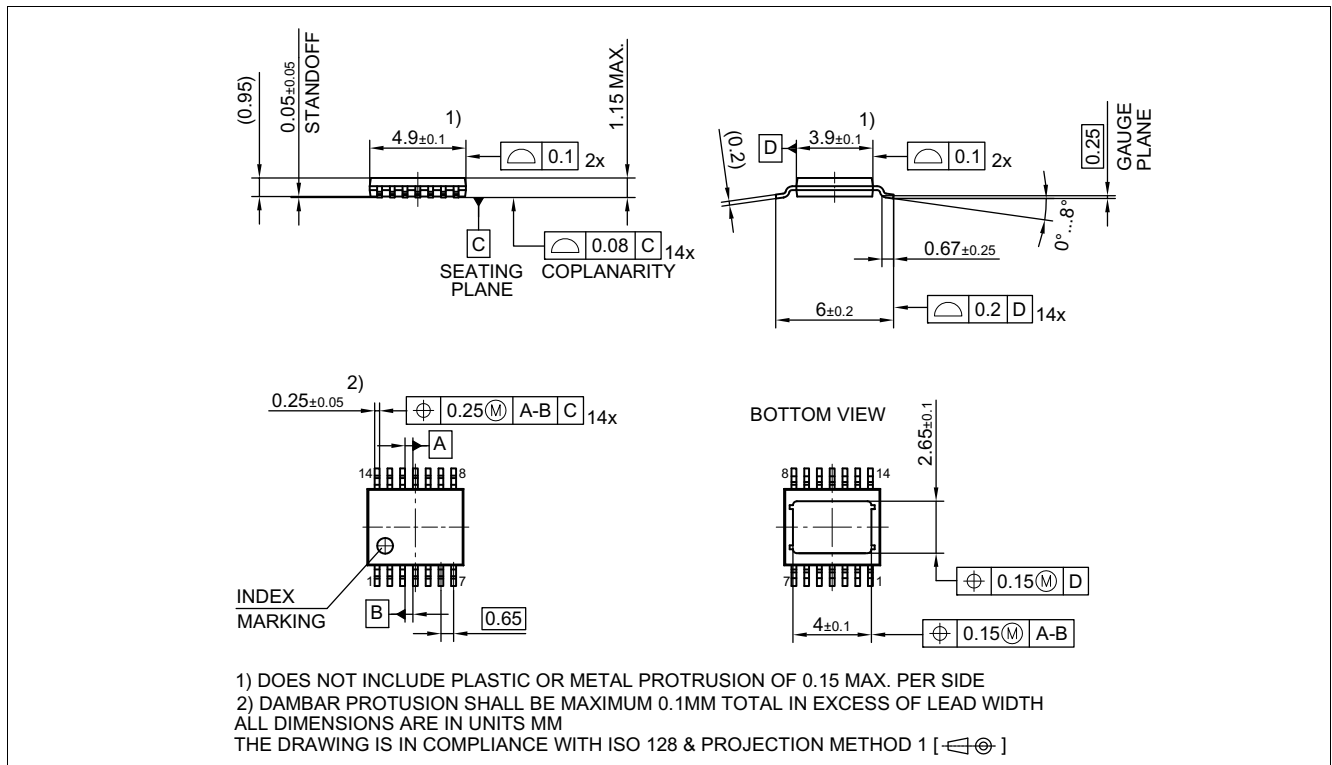
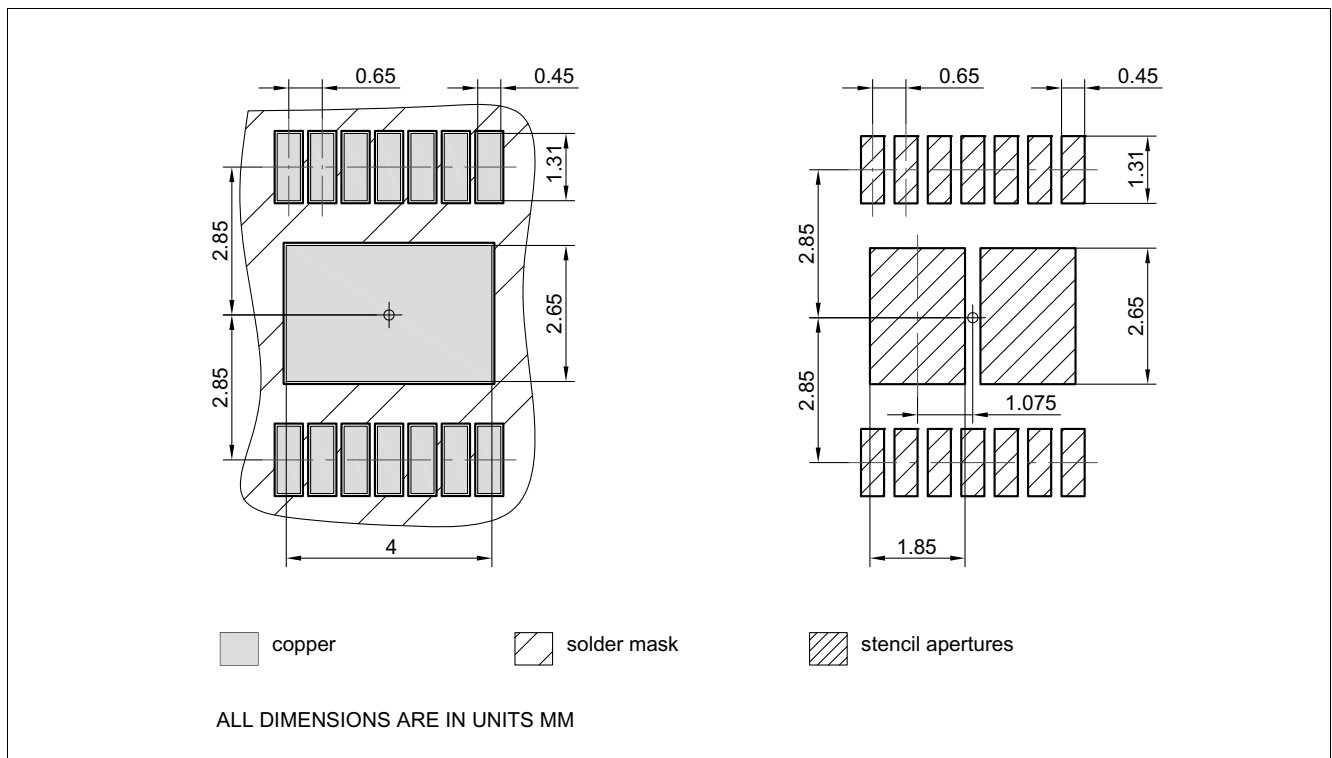

Figure 38 PG-TSDSO-14 (Thin (Slim) Dual Small Outline 14 pins) Package Outline
Figure 39 PG-TSDSO-14 (Thin (Slim) Dual Small Outline 14 pins) Package pads and stencil
1.02, 2019-02-05	<p>Figure 9, Figure 10 updated Page 1: updated figure product Table 22 updated punctuation Chapter 9.3, Chapter 9.3.1 updated (typo) Page 1: updated (Package PG-TSDSO-14-22 → Package PG-TSDSO-14) Figure 38 updated (PG-TSDSO-14-22 (Thin (Slim) Dual Small Outline 14 pins) Package Outline → PG-TSDSO-14 (Thin (Slim) Dual Small Outline 14 pins) Package Outline) Figure 39 updated (PG-TSDSO-14-22 (Thin (Slim) Dual Small Outline 14 pins) Package pads and stencil → PG-TSDSO-14 (Thin (Slim) Dual Small Outline 14 pins) Package pads and stencil) Table 1 updated (Parameter: Minimum Overvoltage protection ($T_J = 25\text{ °C}$) → Minimum Overvoltage protection ($T_J \geq 25\text{ °C}$)) Table 1 updated (Symbol: $I_{VS(OFF)}$ → $I_{VS(OFF)_85}$, Value: 1 → 0.9 μA) P_6.5.20.1 updated (Symbol: $I_{VS(OFF)}$ → $I_{VS(OFF)_85}$) P_6.5.20.2 updated (Symbol: $I_{VS(OFF)}$ → $I_{VS(OFF)_150}$) P_9.7.10.27, P_9.7.10.29 updated (Note or Test Condition: formatted physical symbols as subscript)</p>